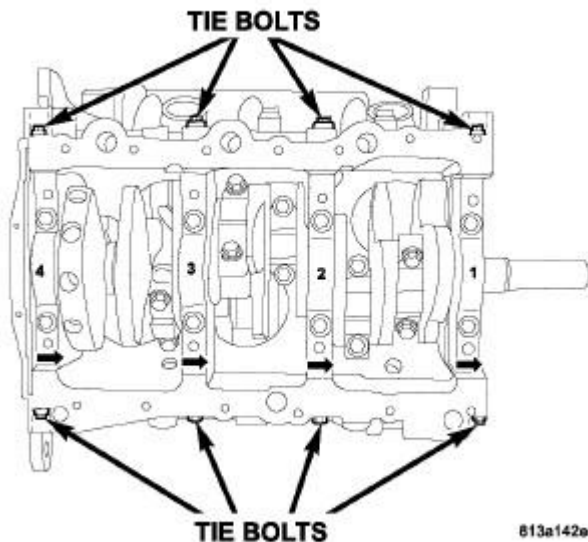

Fig. 316: Main Bearing Cap Identification & Bolts
10. Install the main cap tie (horizontal) bolts and tighten to 28 N.m (250 in. lbs.). Refer to **Fig. 315** and **Fig. 316.**